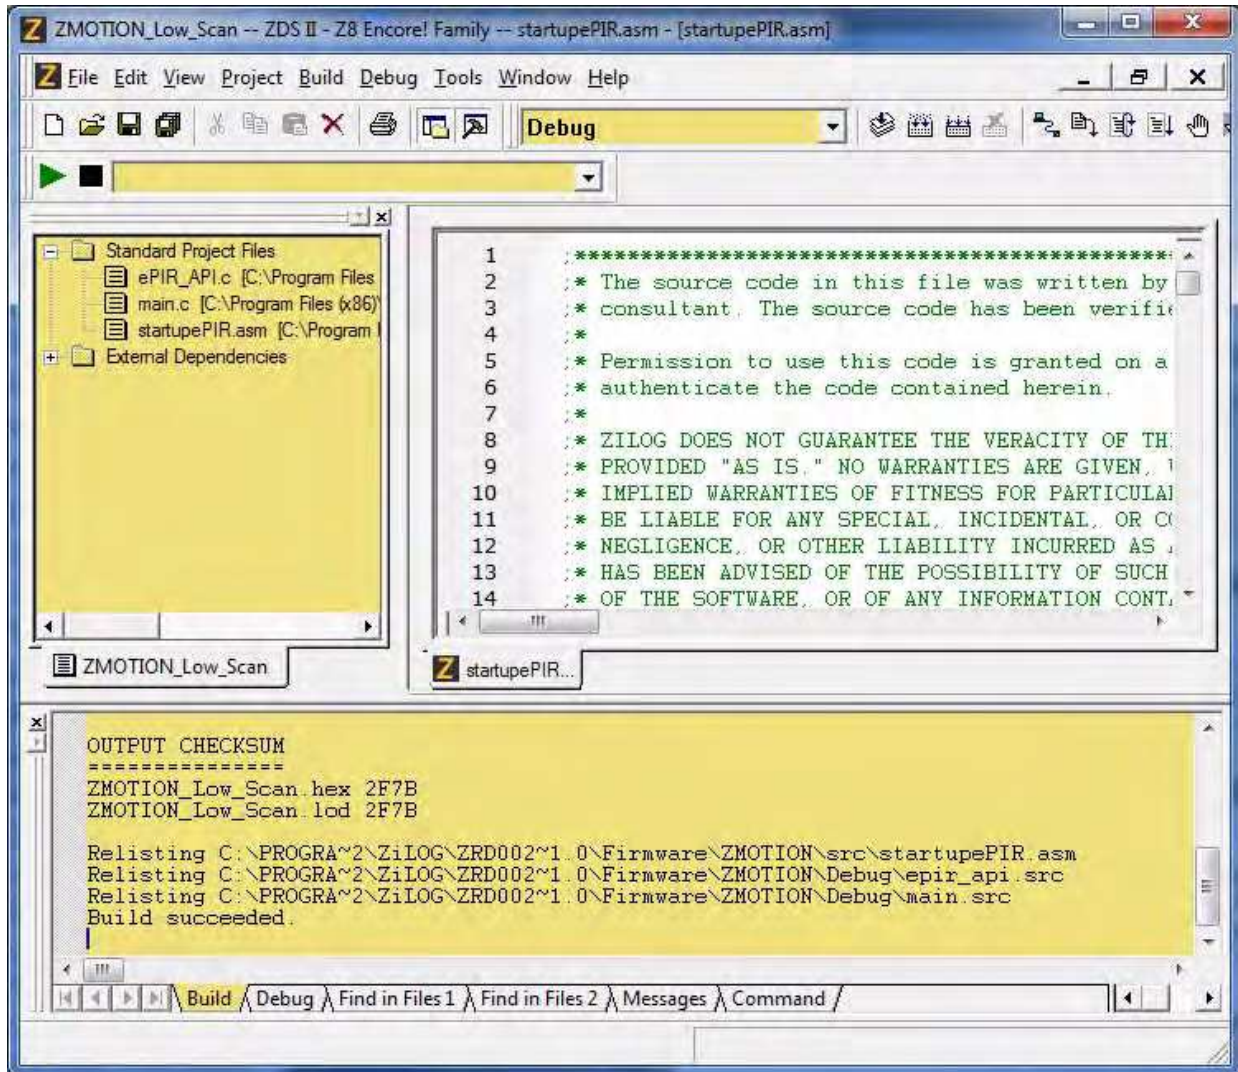

Figure 7. A Successful Build
5. When the rebuild is complete, a Build succeeded message will appear, as highlighted in Figure 7.
► **Note:** The checksum shown in Figure 7 may be different in the final software release.